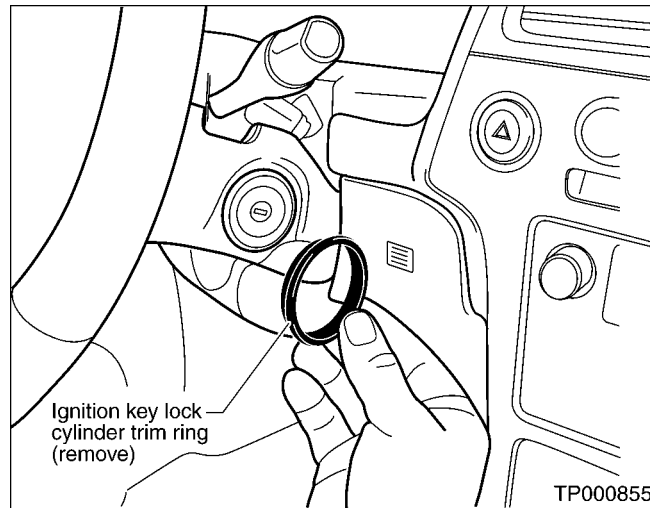

Figure 2
2. Remove the trim ring from the ignition key lock cylinder (see Figure 2).